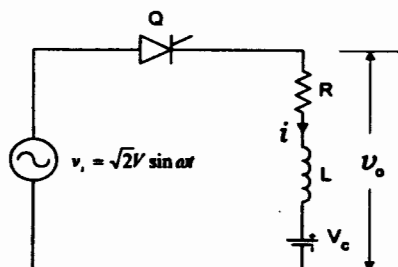

Figure 1: A Half-wave rectifier.
1. A half-wave controlled rectifier is shown in Figure 1. The thyristor, Q is fired at  $\alpha = 45^\circ$  during each cycle. The rms value of the source voltage is 120 V. Consider  $V_c = 24$  V,  $L = 12$  mH and  $R = 6 \Omega$ .